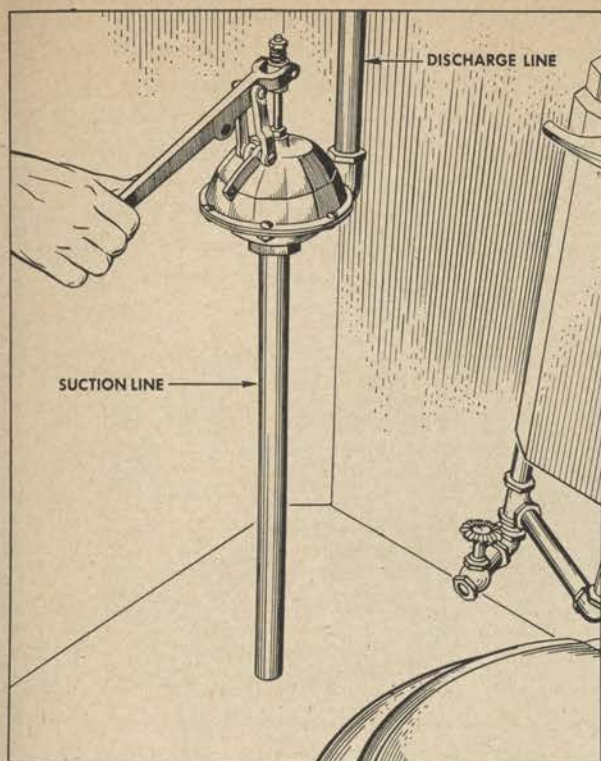

Figure 54. Operating hand pump.
(4) *Filling sea water tank.* Fill the sea water tank located in water closet by operating hand pump located below the tank. (See fig. 54).